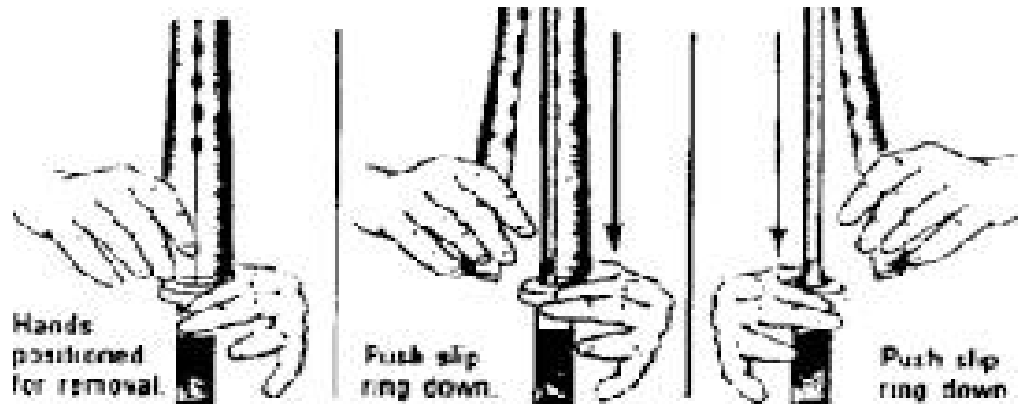

Figure E-5 Removing the handguards
c. Remove the handguards only if you can see dirt or corrosion through the vent holes (figure E-5). Handguards on the M16A2 are interchangeable because they are identical.